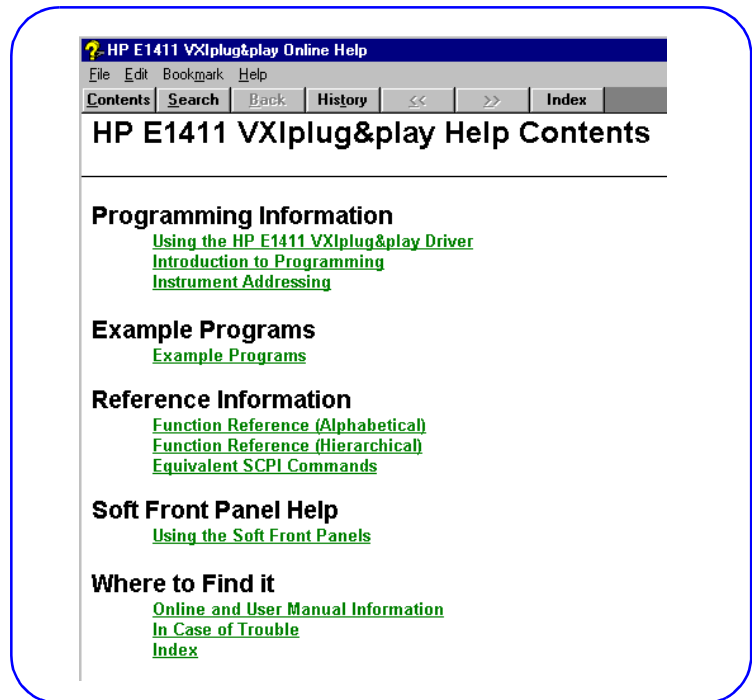

Figure 38. Typical VXIplug&play Help File Main Menu
- 2 For the first VXI instrument to be programmed, open the applicable instrument *VXIplug&play* Help File (*Start/Programs/Vxipnp/instrument help* icon). Figure 38 shows a typical *VXIplug&play* Help File main menu for the HP E1411 DVM that is displayed when you click *Start/Programs/Vxipnp/HP E1411 Help (32-bit)*.